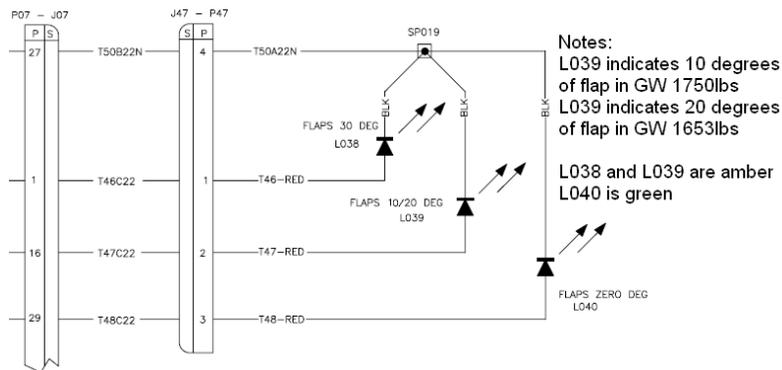

Figure 31-15 Partial Schematic of the Flap Indicator Circuit
6. Mark for identification and cut the black wires ahead of splice SP019. Refer to Figure 31-15 for the schematic location of the splice.
8. Remove the appropriate connector pin from P47. Refer to Figure 31-15 for which pin in P47 to remove for which LED indicator.